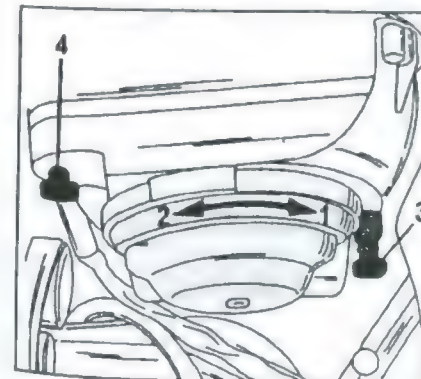

Fig. 8.5 - View of a headlamp unit from the rear. Remove the plastic cover in direction (1) and refit it in direction (2).
- Open the bonnet and from the rear of the headlight unit remove the plastic cover by turning it into the direction "2" of the arrow in Fig. 8.5.
If the headlamps are adjusted from the inside you will find the two knurled nuts on opposite sides of the headlamp, as can be seen in Fig. 8.5. Use adjusting screw (3) to move the headlamp beam up or down, use adjusting screw (4) to adjust the beams from left to right. Refer to Fig. 8.8 for the location of the adjusting screws when the headlamps are adjusted from the outside.